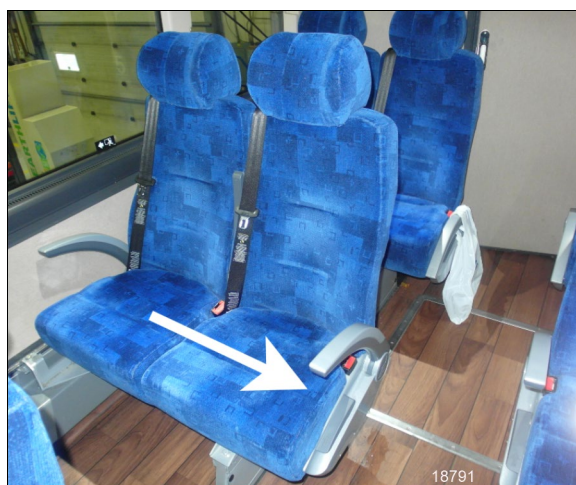

FIGURE 28: PULL TO UNLOCK THE ROTATION
2. Pull the seat toward the aisle to unlock the rotation (Figure 28).